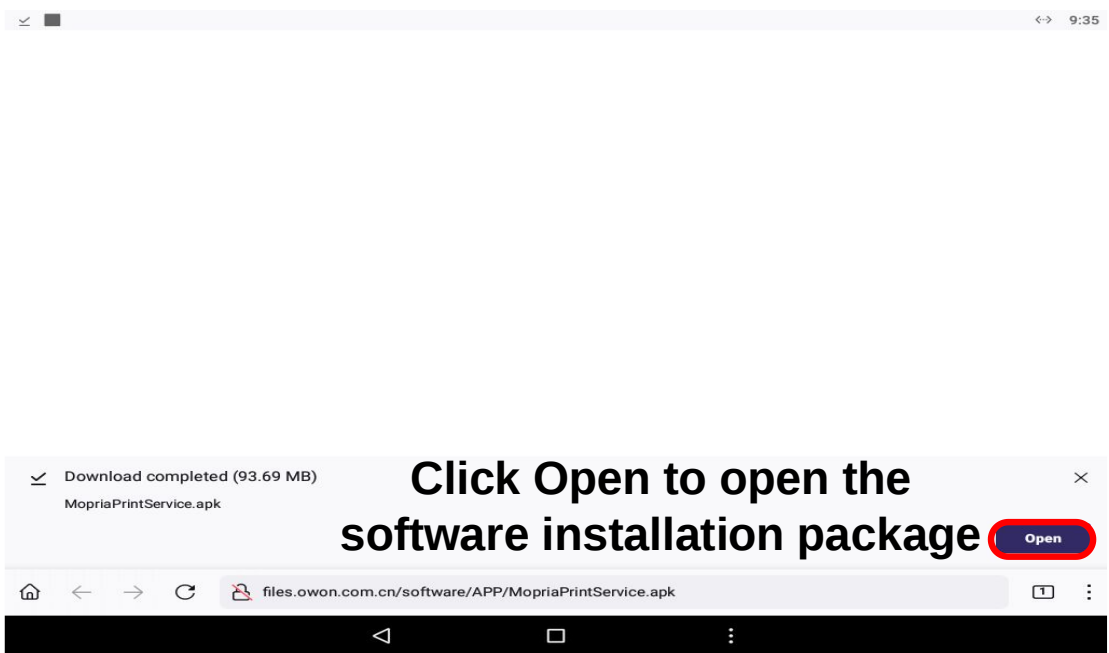

Figure 2
②Click **Open** to installation package, as shown in Figure 2.